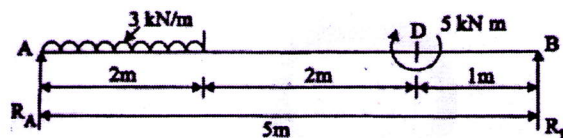

Fig 1
- 15a Draw the shear force and bending moment diagram for the simply supported beam shown in the Fig 1. (10)